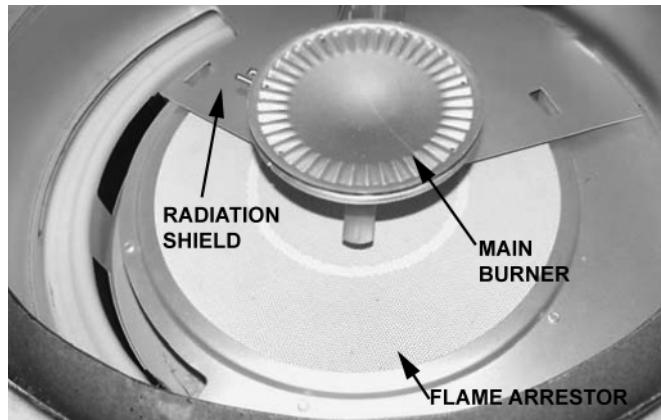

Figure 4
- Inspect the radiation shield (thin circular metal sheet under the burner and above the flame arrestor), see Figure 4. If any of the sides of the radiation shield are touching the base (disrupting air flow), install 1/2-inch high feet under the radiation shield. To obtain the feet free of charge, contact Residential Technical Assistance referencing the number in your manual.